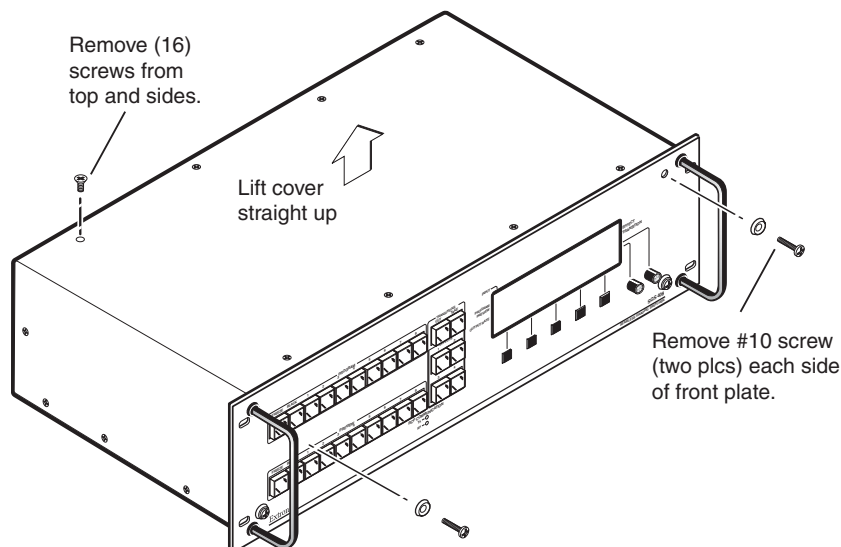

Figure B-1 — Removing the cover
3. Remove 16 screws from the sides and top of the cover and the two #10 screws from the top half of the front panel (figure B-1).